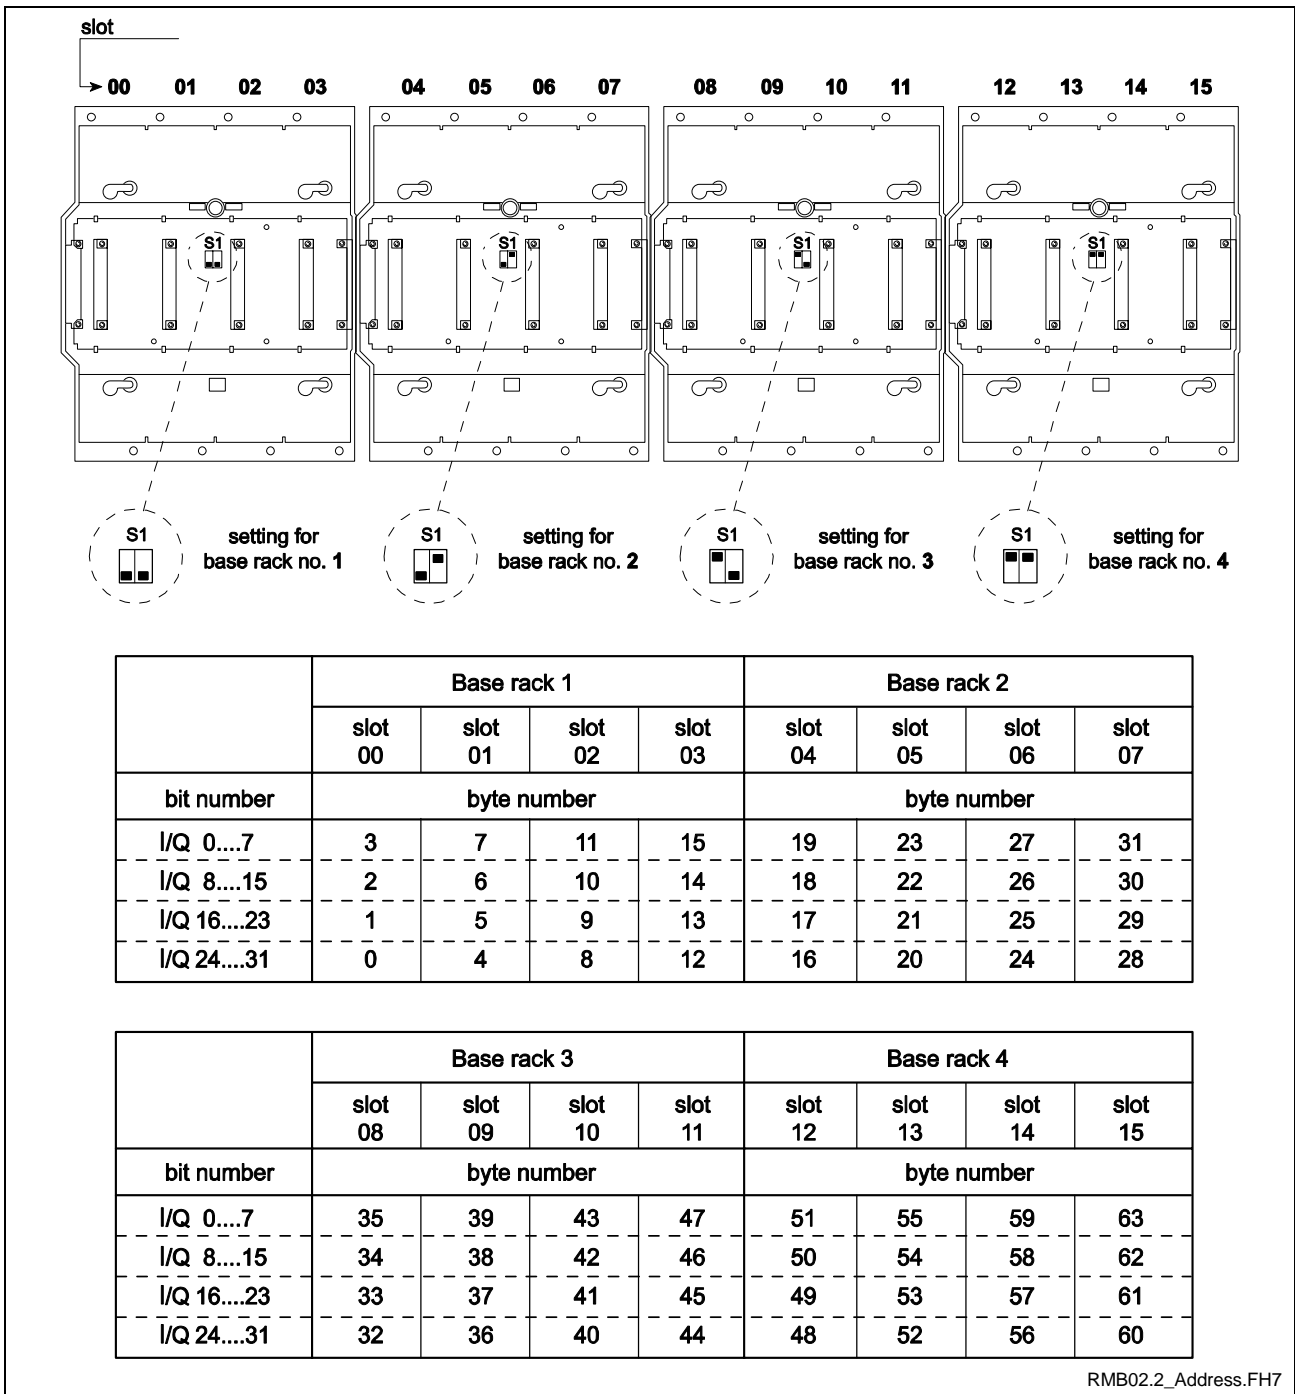

Fig. 5-8: Setting the Reco Rack Addresses
A maximum of four RMB racks can be connected and mounted side by side. Each rack contains an addressing DIP switch for configuring the order of installation as illustrated in Fig. 5-8.
A DIP switch on the rack's bus board enables up to four (4) RMB02.2-04 racks to be addressed individually. Each rack must have its own unique address. Number of racks used in a given application should be addressed as shown in Fig. 5-8.